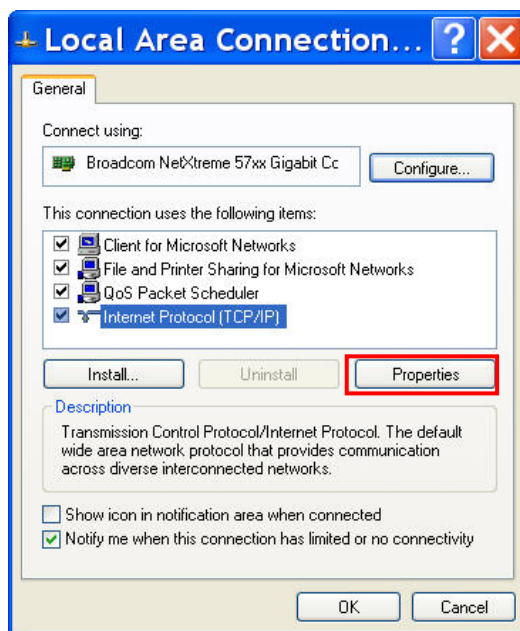

Figure 14: Local Area Connection
4. Click *Internet Protocol (TCP/IP)*. See Figure 14.